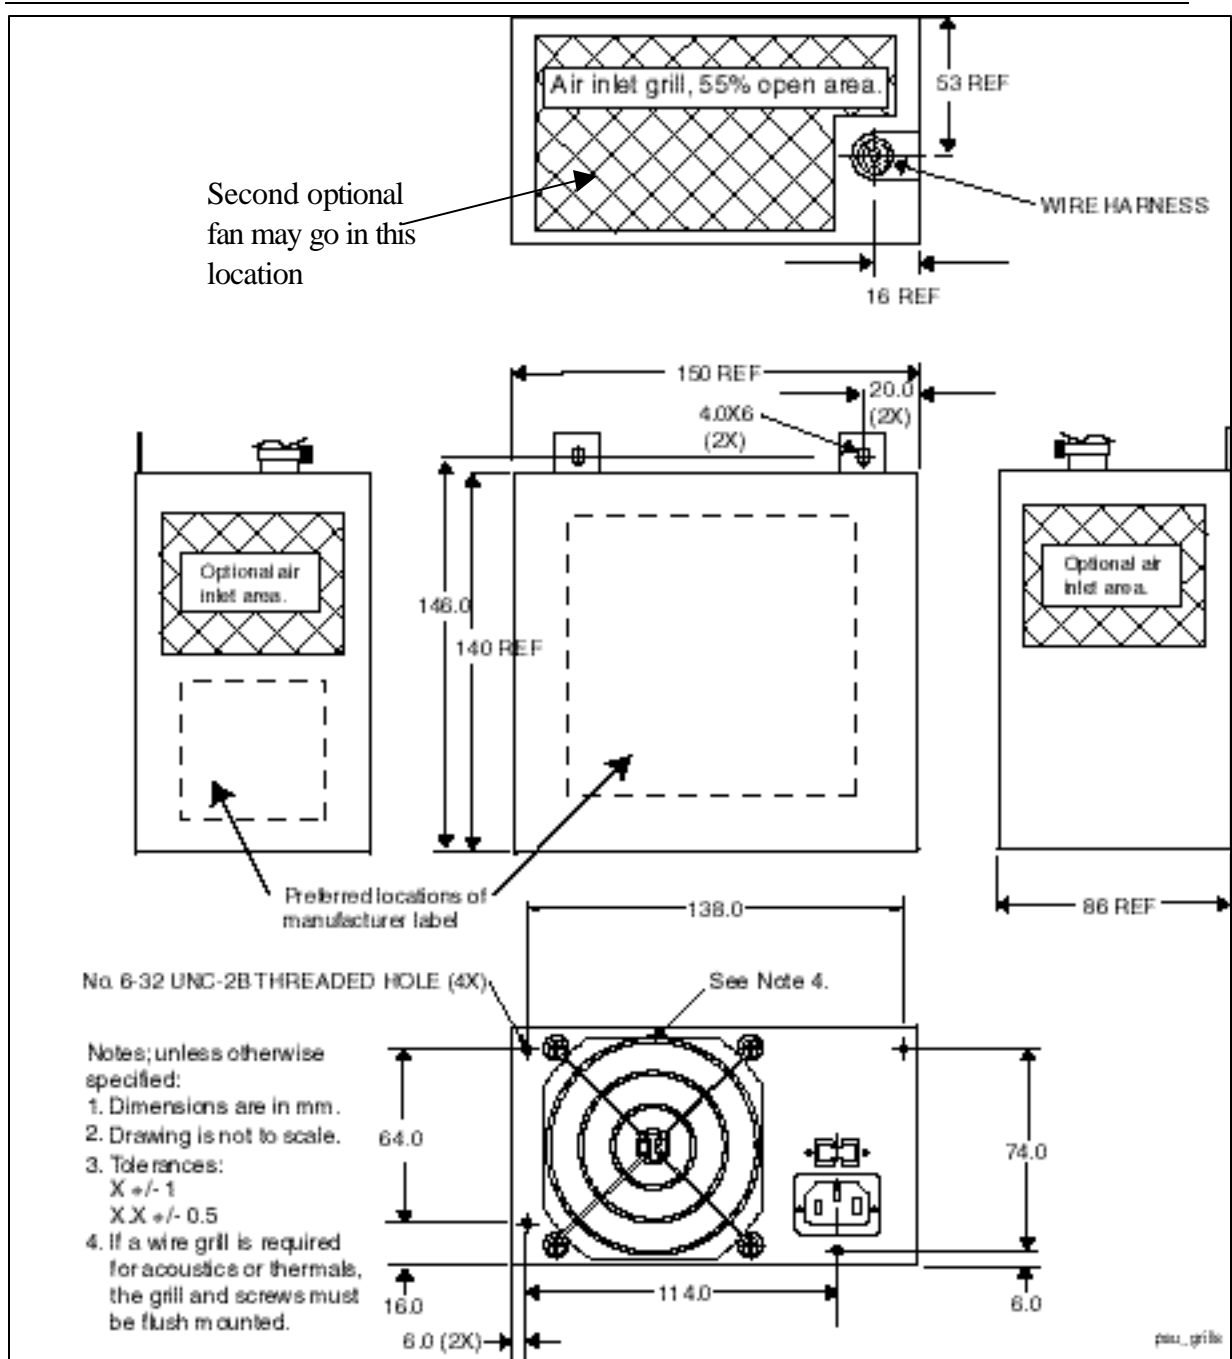

Figure 7. Power Supply Dimensions for chassis that does not require top venting
The supply shall be enclosed and meet the physical outline shown in either Figure 7 or 8, as applicable.
- The venting shown in Figure 7 provides the most effective channeled airflow for the power supply itself, with little regard for directly cooling any system components. This venting method is nearly always used in conjunction with a fan that exhausts out the rear of the power supply.